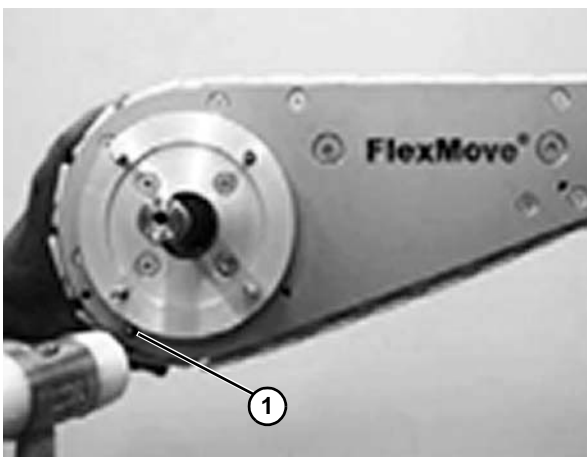

Figure 55
4. Tension the chain and remove links if necessary, so that the chain will exhibit some slack at the drive unit. Put in the stainless steel pin (Figure 55, item 1) at the hole provided at drive unit and join the chain.